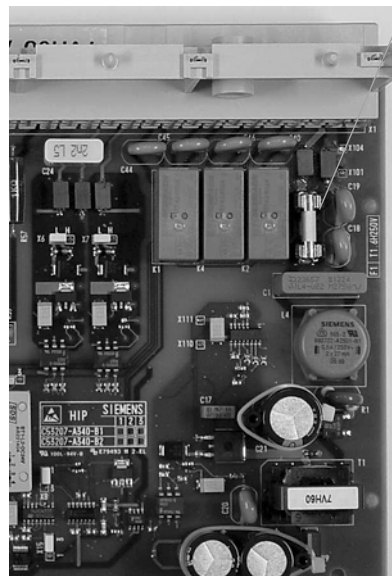

Figure 5-1 Mini-Fuse of the Power Supply
- ☐ Fuse in the power supply has not blown. The location of the fuse is shown in Figure 5-1. If the fuse needs to be replaced, see Subsection 5.1.1.
- ☐ Select a replacement fuse 5 x 20 mm. Ensure that the rated value, time lag (slow), manufacturer, and code letters are correct (Figure 5-1).
- ☐ Remove blown fuse from the holder (Figure 5-1).